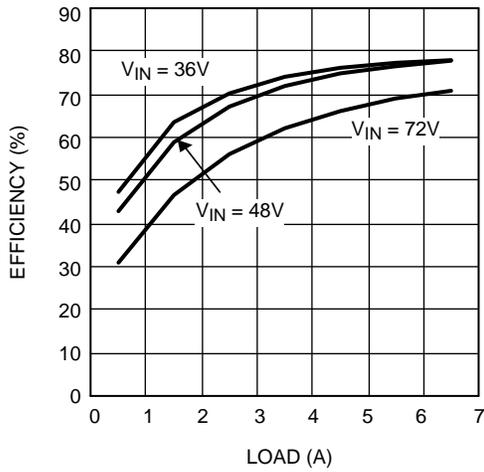
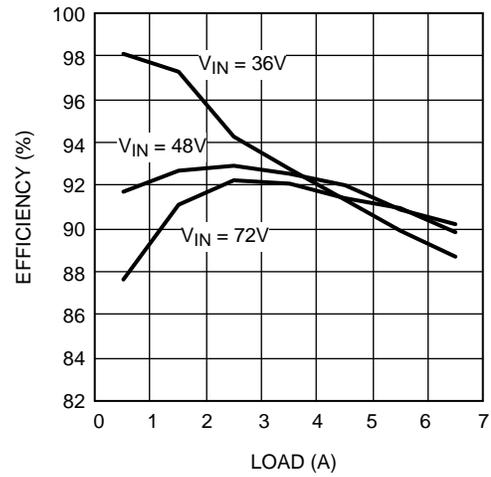

Figure 4. System Efficiency vs. Load Current and  $V_{IN}$
Figure 5. Adjusted Efficiency on Secondary Side vs. Load Current and  $V_{IN}$
1. Power Conversion Efficiency (Figure 4 and Figure 5)